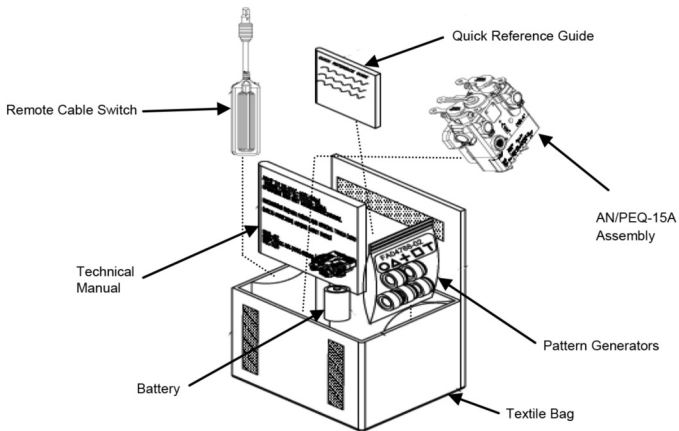

Figure 1. Preparation for Storage and Shipment
5. Refer to Figure 1 for placement of the AN/PEQ-15A and COEI into the Textile Bag.